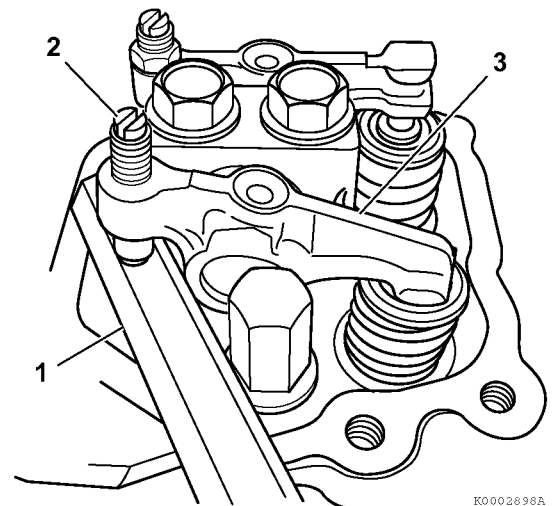

Figure 6-28
4. Remove the intake valve adjustment screw lock nut from the intake valve rocker arm (3, **Figure 6-28**) of No. 1 cylinder, and back out the adjustment screw (2, **Figure 6-28**) enough to remove the push rod.
*Note: The use of a "bridge" tool is needed to support the valve adjustment screw and open the valve. Use a suitable tool that allows adjustment of the valve adjustment screw. An 8 to 10 mm hex wrench is shown as an example in (1, **Figure 6-28**).*